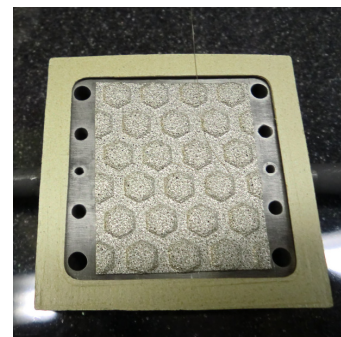

Figure 12
5. Measure and cut the platinum voltage wire into two wires of sufficient length to extend from inside your furnace to your voltage monitoring connection. Bend a small hook into one platinum voltage wire and place it in the middle of the Ni mesh on the anode manifold (Figure 12). Typically it is difficult to secure the wire in place, so step 6 should be performed while holding the wire from step 5 in place with one hand.